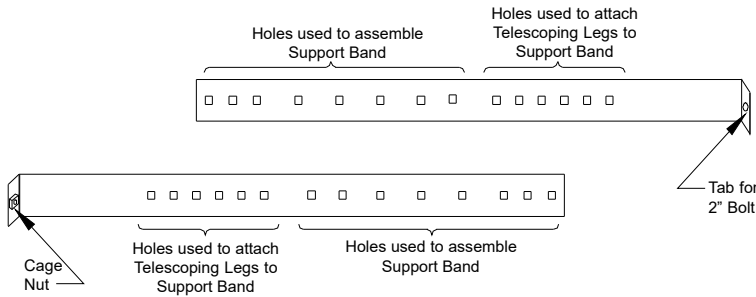
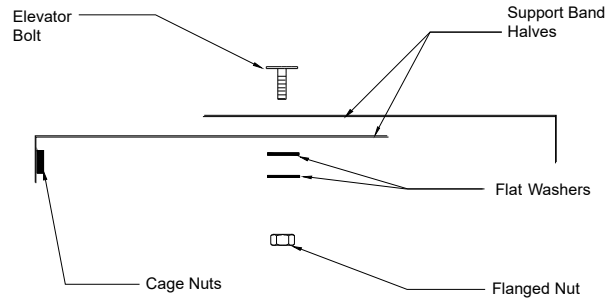

Figure 28 Support Band Holes Identifier
Figure 30 Topview assembly of Support Band - Elevator Bolt, Washers and Nut
- Measure the outside (OD) diameter of your chimney.
- From the single row of holes (see Figures 28 and 29), select the hole in each half that corresponds to the outside diameter identified with the chimney being installed. Place the two halves together. Insert an elevator bolt through the chosen holes (Ex - for a 10" OD chimney, place the elevator bolt through the holes identified for 10" OD). The elevator bolt should be oriented as shown in Figure 30. Secure the center bolt with washers and 1/4" flanged nut (see Figure 30). NOTE: On smaller diameter chimneys the excess band material can be cut off.